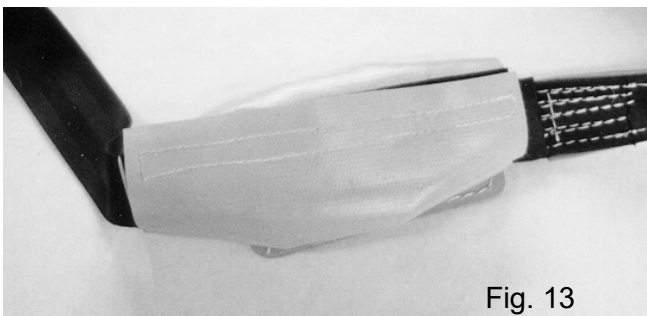

Fig. 13
- f. Cover the ratchet by folding the vinyl flaps of the cover over the ratchet and mating the Velcro strips (Fig.13).